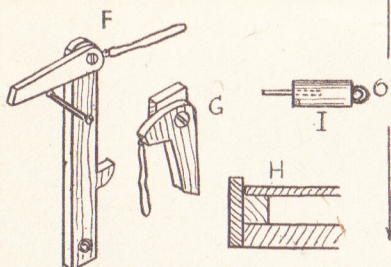

Fig. 2—Details of fittings
To the edges of this, some $\frac{1}{8}$ in. thick strips of wood are fixed to make a finishing rim, as in detail Fig. 2 (H). These are $1\frac{1}{4}$ ins. wide, so will rise above the cover board, referred to later on, just $\frac{1}{8}$ in.
An elastic band is hooked to the pawl and dropped over a screw, driven in the lever, where shown. On the right edge of the lever, near the top, fix a second hook, and to this slip on another elastic band. The whole will then present the appearance seen at (F) in Fig. 2.
Cut the detent (D) from $\frac{1}{8}$ in. wood and fix a small wire hook where shown. This part should be pivoted with a countersunk screw to a small square of $\frac{1}{4}$ in. fretwood, as in detail (G) Fig. 2, the square being glued to the backboard so that the detent falls into the teeth of the disc at about the position shown in Fig. 1. Hook the elastic band, attached to the detent as in the detail, over a screw head, driven in the backboard.